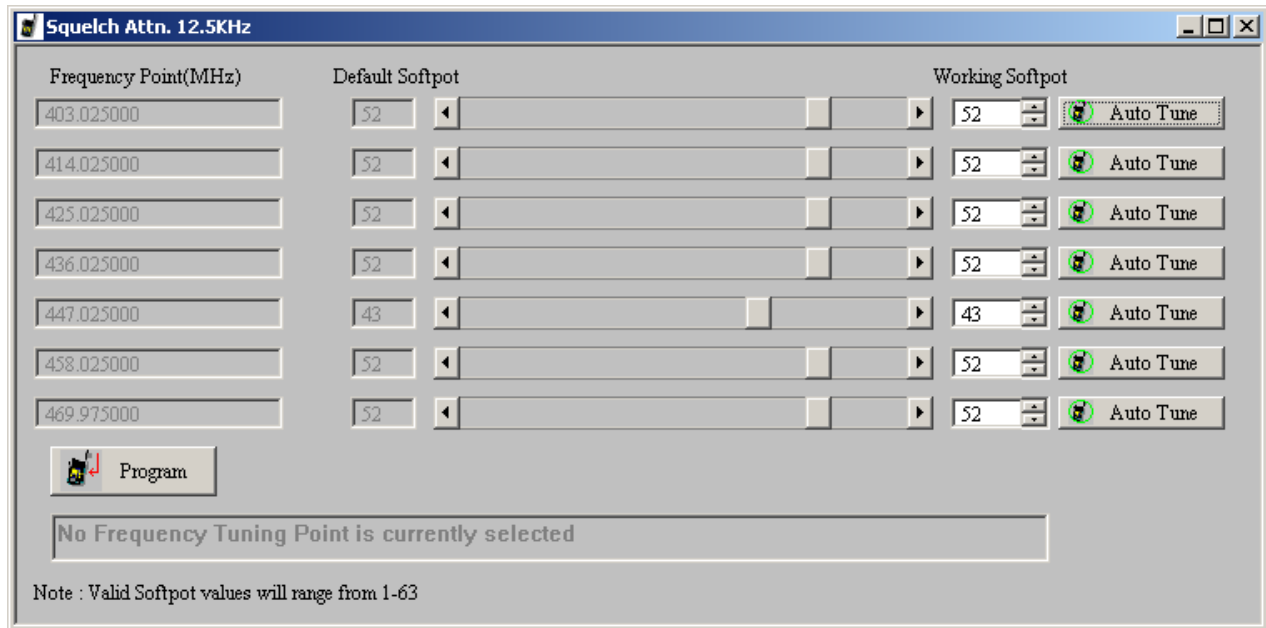

Figure 4-10. Squelch Tuning Window
1. Under the **Rx Align** menu, select **Squelch Attenuation**. Select **Squelch Attenuation 12.5 kHz** or **Squelch Attenuation 25 kHz** Channel Spacing variations (Figure 4-10).